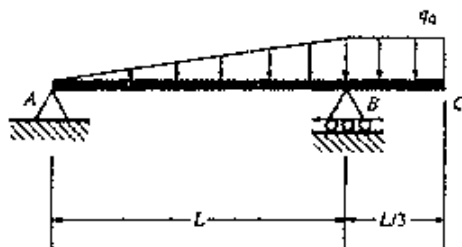

Fig. 2
- (2) Construct the shear-force and bending-moment diagrams for the beam shown in Fig. 2. (8%)